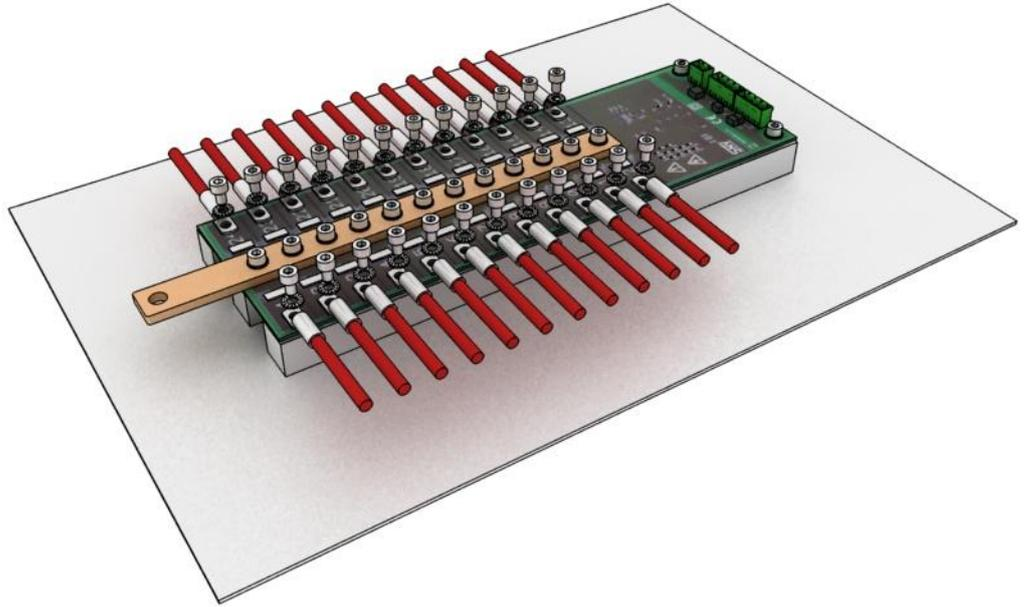

Figure 9: Mounting of the current measurement cables
4. Mount the current measurement cables on the CMC SNV018EC using M5x10 (DIN912 or DIN933) bolt and star washers (DIN6798A) as illustrated in figure 9.